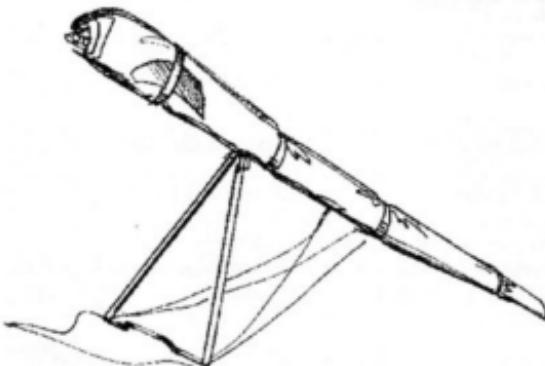

Fig. 16
4.1.7. Pull the wings in parallel to the keel tube. **Take care that the shackle of the cross-beam tensioning wires don't get caught where it enters the sail !** Pull out small masts on the LE-tube/X-beam junction. Spread the sail so that both the top and bottom surfaces of the sail are equally taught, roll the sail up to the dive sticks and place it along the leading edge. Secure the sail at dive stick with the velcro ties. Continue rolling the sail up to the wing tip bags and secure the wing with more velcro straps (Fig. 16).
4.1.8. Cover the rear keel tube/wires junction by a protective bag. Place the bags with battens on the nose section along the keel, put the nose cone under the velcro strap that is nearest to the nose tighten tape (Fig. 16). Fit the bag over the glider (from the upper side).